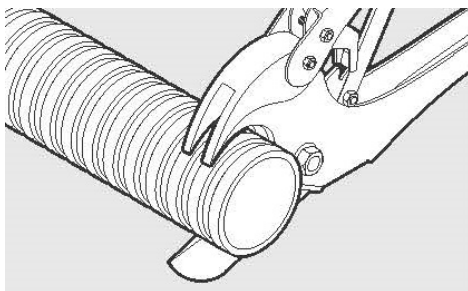

Figure 27
- A. Cut the corrugated conduit at the valley of the corrugation, rather than the dip, to enable proper alignment as shown in Figure 27.